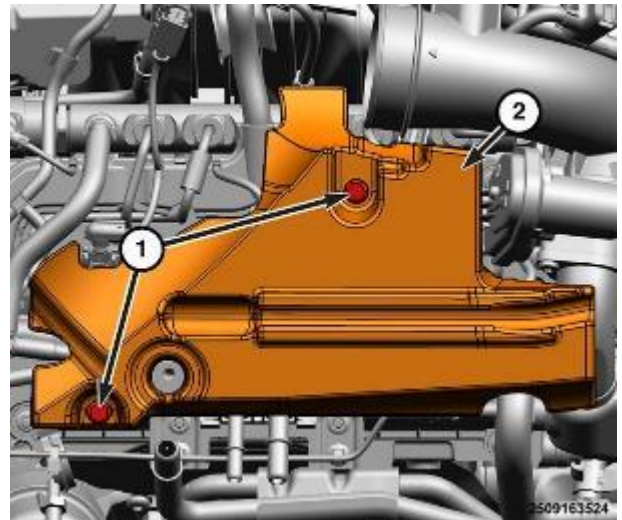

Figure 179 – Left Fuel Rail Cover
- 14. Remove the left fuel rail cover bolts (1) and the left fuel rail cover (2) (Figure 179).